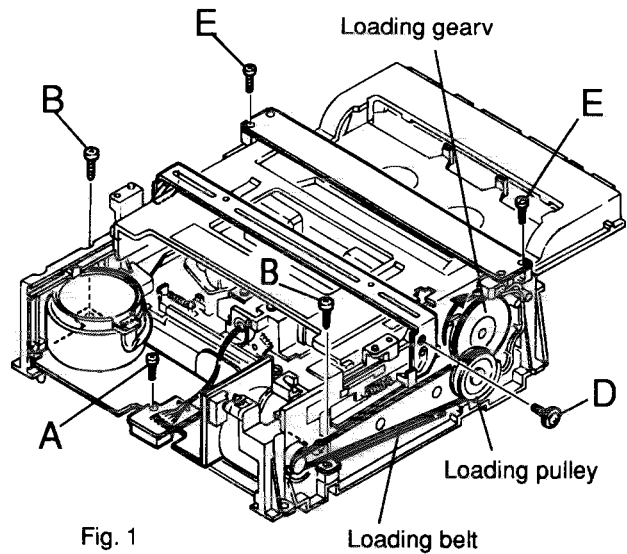

Fig. 1
■ Detaching the cassette loading mechanism (Figs. 1 to 3)
2. Remove the screw (A) securing the head relay board (to protect the head wire).
3. Remove the two screws (B) securing the capstan motor bracket.
4. Remove the screw (D) securing the cassette stabilizer, and detach the stabilizer by pressing it from the side the securing screw is on.
5. Remove the two screws (E) securing the bracket.
7. Turn the unit over and remove the four screws (C) securing the cassette mechanism assembly.